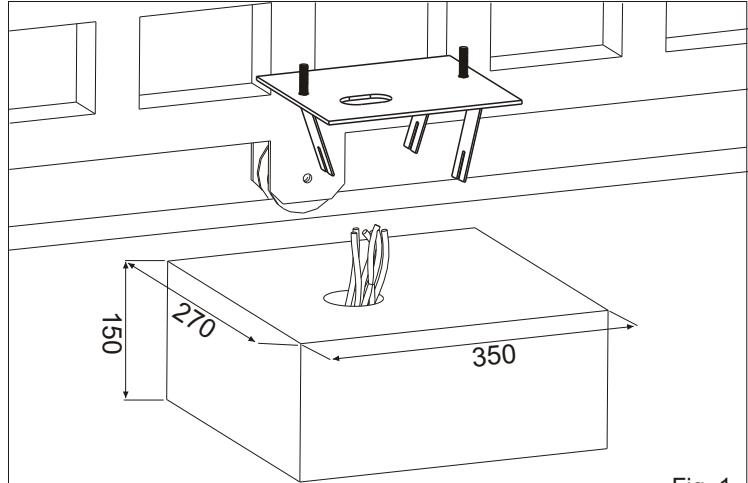

Fig. 1
- Have a mounting plate manufactured to the dimensions shown in Fig. 1. The plate will require to have concrete holding into which the foundation plate and the anchor bolts will be walled up. It is best if the gate structure allows the plate to be raised up from the finished level by 50 mm. This will stop water gathering around the operator.